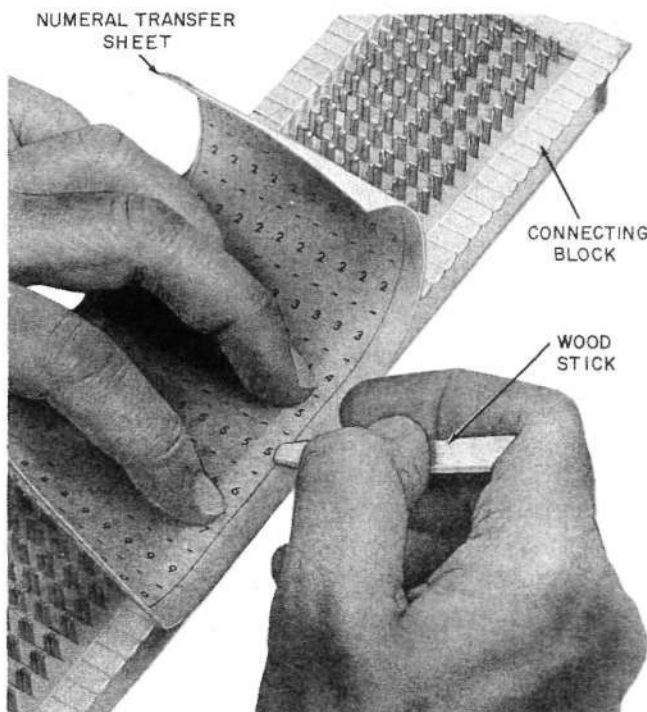

Fig. 2—Method of Stenciling
- (1) With the glossy side up, place the transfer sheet with the selected letter or numeral over the spot to be stenciled. Using the square end of the wooden stick, apply pressure to the letter or numeral being transferred and rub the stick over the character several times. See Fig. 2.